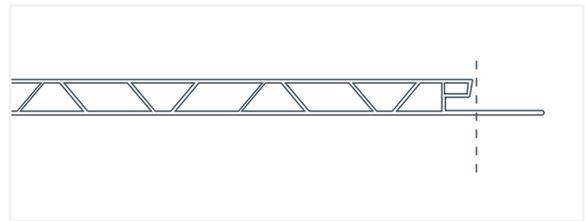

Fig. 42
6. Cut the screw flange off the replacement panel as close to the panel body as possible. It is recommended to use tin snips for this step (Fig. 42).